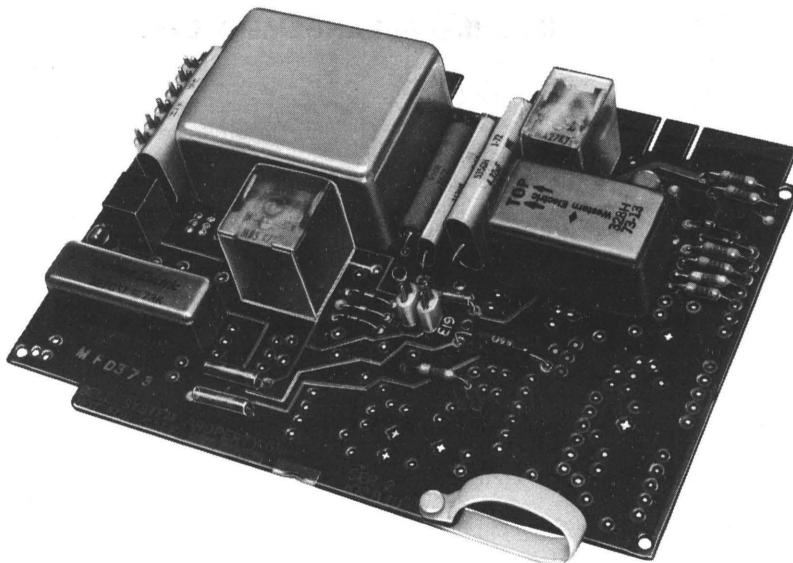

Fig. 1—102B Interconnecting Unit
**1.03** The 102B IU (Fig. 1) is an improved version of the 102A IU (MD) providing option terminals for matching the impedance of the customer-provided equipment (CPE) to the central office (CO) line. The 102B IU does not require pulse correction. In existing installations using pulse correction, the 103A IU (MD) pulse correctors must be removed when replacing the 102A IUs with the 102B IUs. The 102B IU also increases the range limitation to the CPE from 18 ohms to 100 ohms maximum on the supervision leads (CS and CG).
- Voice Connecting Arrangement C2AKS provides an automatic connection of customer-provided (CP) terminal equipment, typically call diversion of WATS line extension equipment, to a Bell System CO, PBX, or 1A2 Key Telephone System station line terminating on a Bell System station set.
- Unit, Interconnecting, 102A or 102B (one per CO trunk, Fig. 1).